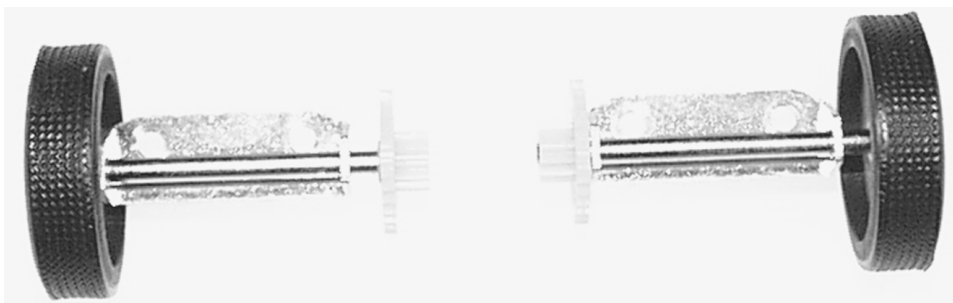

Figure 1-4 Wheels pressed on wheel brackets with axles/gears.
Step 1. Press the “spur” gears onto the axles. Next, thread the gear/axel assemblies into the two wheel brackets and then press on the wheels to hold the axle in place. When the axles are put on the wheel brackets, make sure the assemblies are mirror images of each other as is shown in Figure 1-4. The axle and wheel assemblies will be placed on opposite sides of the robot with the wheels on the outside of the robot.